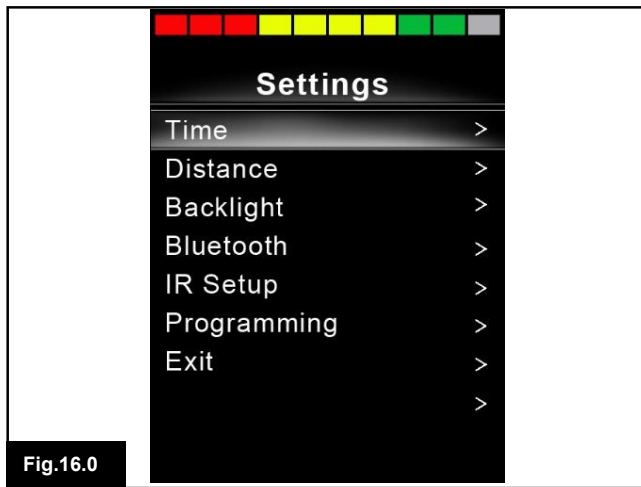

Fig.16.0
16.0 Settings Menu (Fig 16.0)
The Settings Menu allows access to user-related adjustments. It can be accessed from the User Menu or by pressing the top right-hand soft-key on the Display Section after the Omni2 has been switched on. A typical Settings Menu display would be as shown in Fig 16.0.